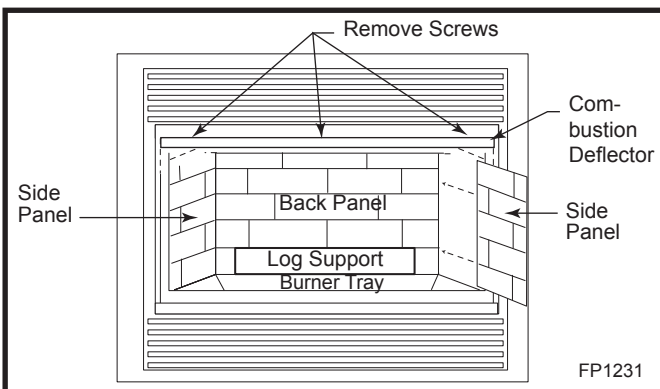

Fig. 62 Ceramic panel installation.
Installation, refer to Figures 62 & 63
3. Remove the three (3) screws securing the combustion deflector. (Fig. 62)